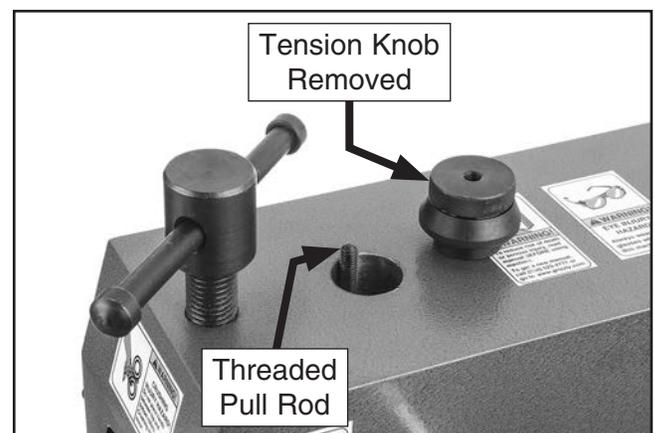

Figure 43. Tension knob removed from threaded pull rod.
3. Loosen return spring tension knob all the way, and remove it from threaded pull rod (see **Figure 43**).